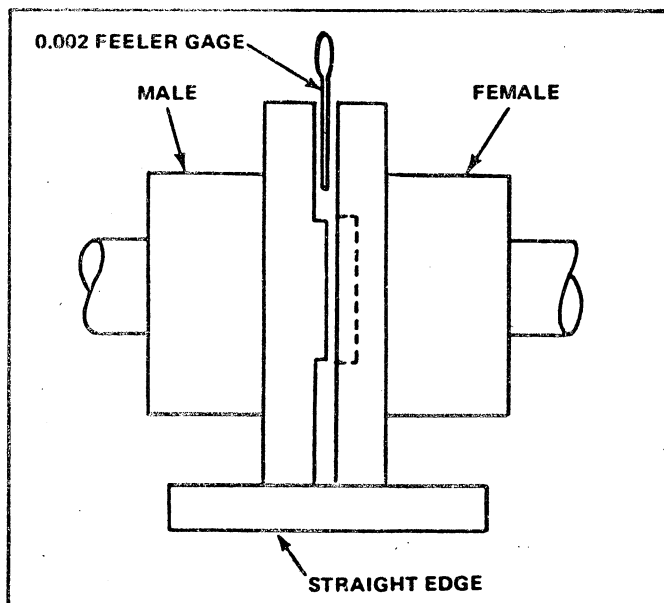

Figure 9-17. Checking alignment (parallelism) of coupling and propeller flanges.
2. It will also be necessary to move the engine and transmission from one side or the other on the bed to obtain horizontal alignment. This can be done with a jack placed horizontally between the engine and the foundation. At the same time, a straight edge is laid across the edges of the flanges at the top and side to check the parallel alignment of the coupling edges. See figure 9-17.